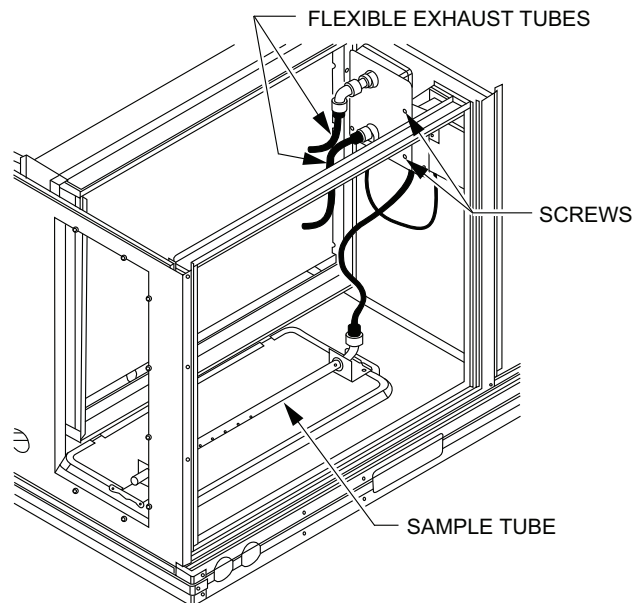

Fig. 43 — Return Air Smoke Detector Shipping Position
1. Unscrew the two screws holding the return air sensor detector plate. See Fig. 43. Save the screws.